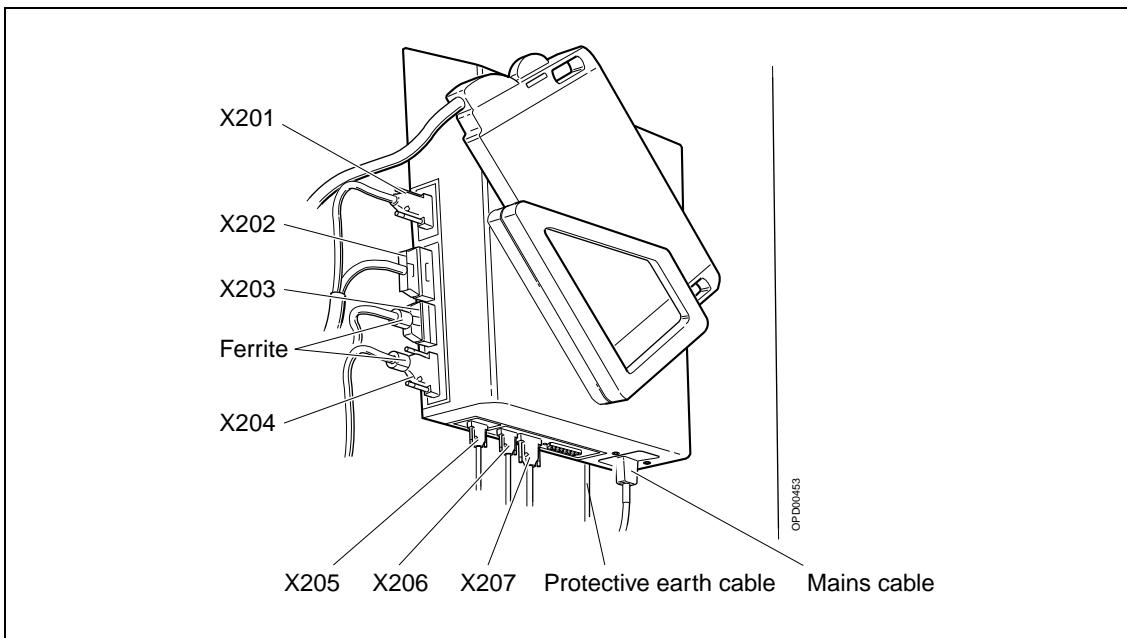

Fig. 4 Connection of cables to the biopsy controller
1. Connect the cable to X201 and X202 on the biopsy controller, see Fig. 4.